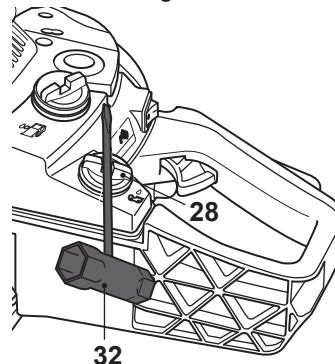

Fig. 17
- > Wipe up spilled fuel with a soft cloth and refit the chain oil tank cap (28). Use the combination spanner (32) to tighten the cap (28) properly (Fig. 17).